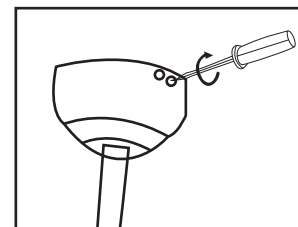

Fig 8
2. Slide the upper conopy to the ceiling, lighten the screw. (see figure8)